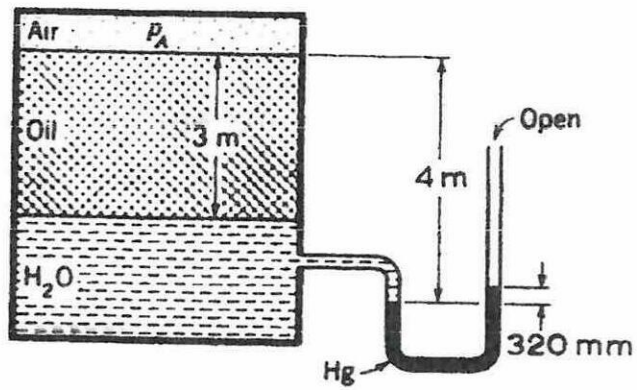

FIGURE Q1 (c)
- (ii) List **THREE (3)** points to distinguish between liquids and gases. (3 marks)
- (c) Referring to **FIGURE Q1 (c)**, calculate the pressure, P_A if the specific gravity of oil is 0.82. (7 marks)
- (a) List **FOUR (4)** basic assumptions in the application of the Bernoulli equation. (4 marks)